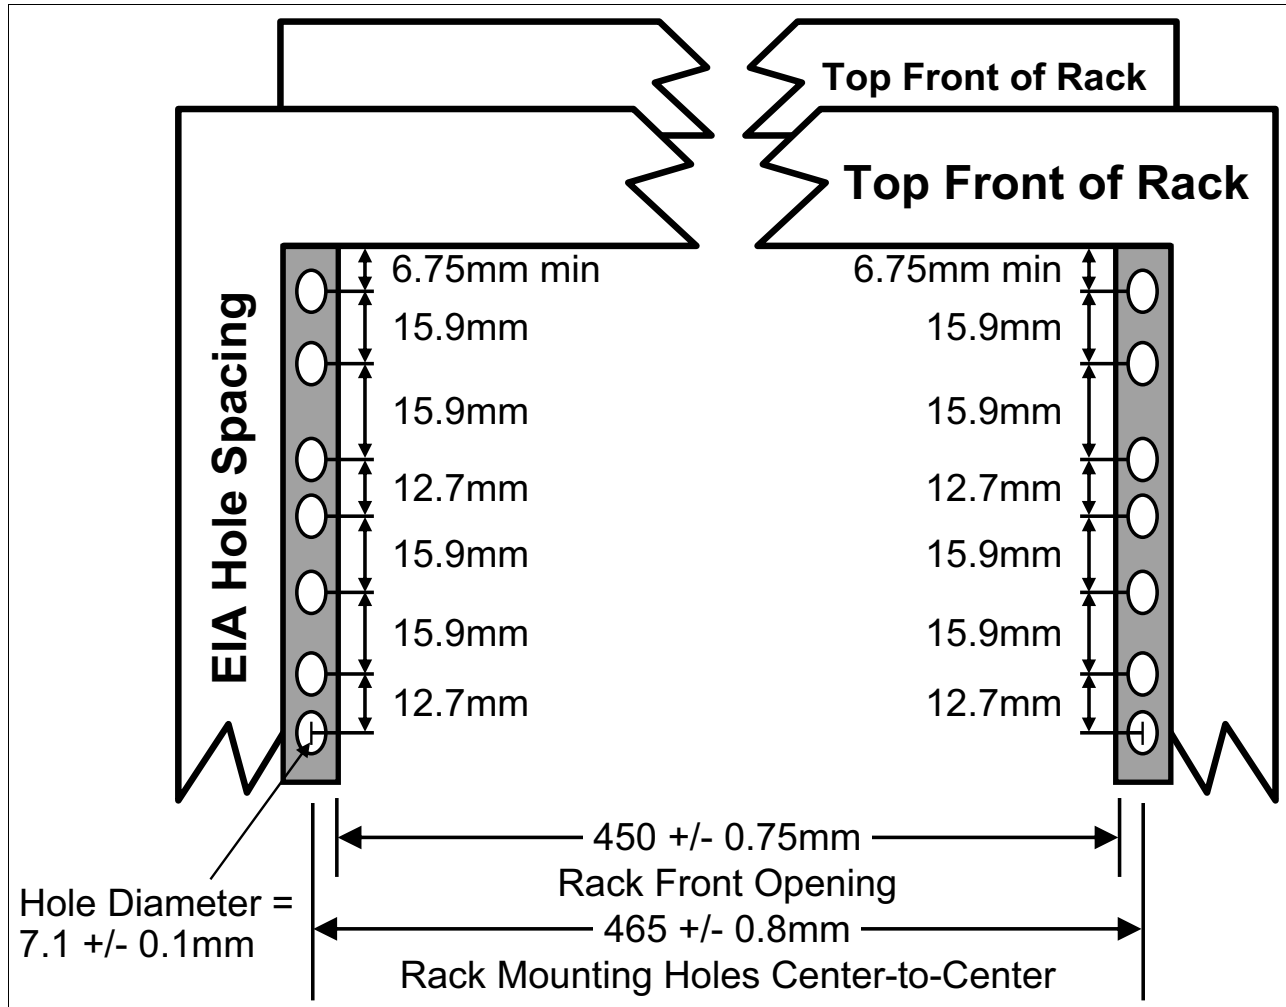

Figure A-3 Rack specification dimensions top front view
- The vertical distance between the mounting holes must consist of sets of three holes spaced (from bottom to top) 15.9 mm (0.625 in.), 15.9 mm (0.625 in.), and 12.67 mm (0.5 in.) on-center, which makes each three-hole set of vertical hole spacing 44.45 mm (1.75 in.) apart on center. Rail-mounting holes must be 7.1 mm \pm 0.1 mm (0.28 in. \pm 0.004 in.) in diameter. Figure A-3 shows the top front specification dimensions.